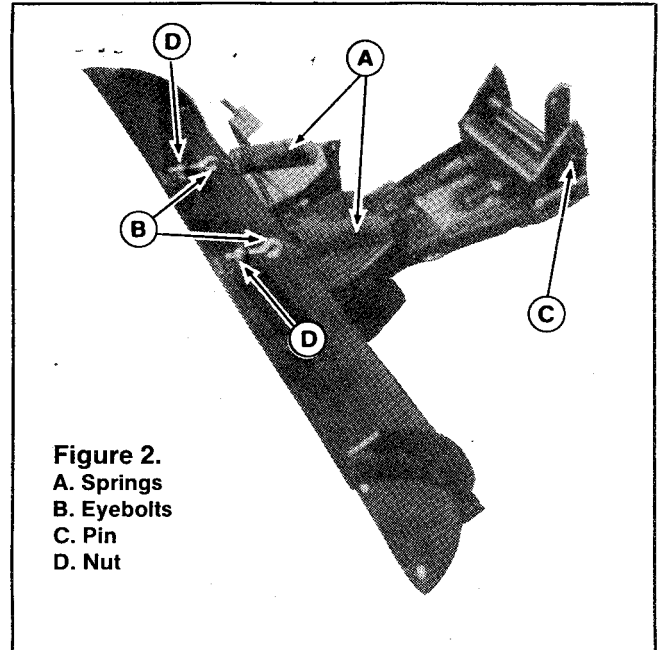
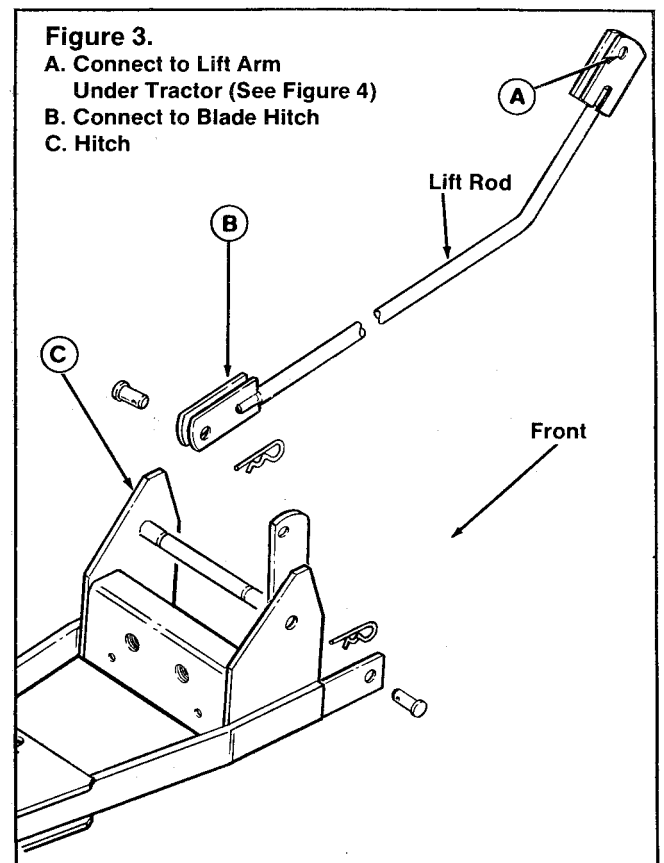

Figure 2.
Figure 3.
2. Install the two springs (A, figure 2) as follows.
- a. Insert eyebolts (B) through the lugs and install a 5/16 nut (D) on the eyebolt, flush with end of eyebolt.
- b. Hook rear ends of springs (A) onto push bar as shown. Stretch with pliers to hook springs onto eyebolts.
- c. Tighten the nuts (D) to expose about 3/4" thread. Install a second 5/16 nut onto each eyebolt. Hold first nut and tighten second nut against it.
3. Insert the lift rod (figure 3) into position under tractor.